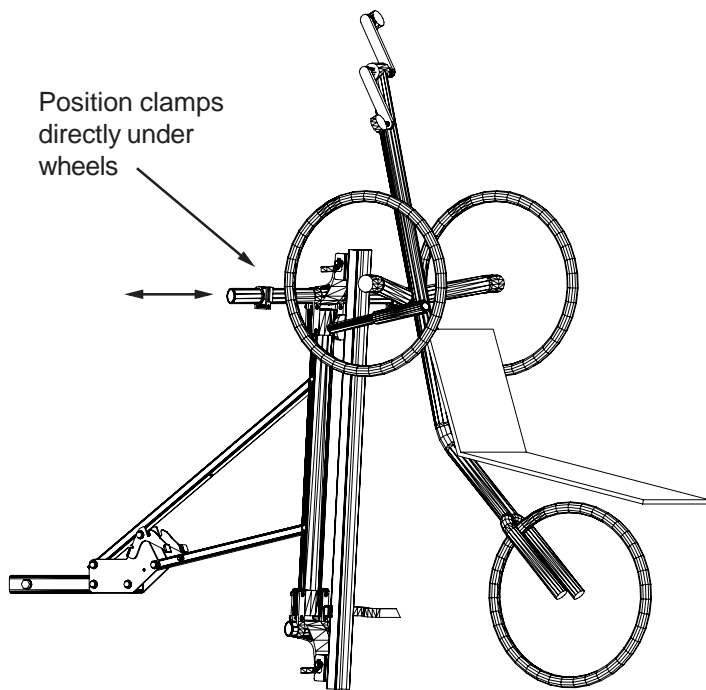

Figure 4A
4.2. Place your tadpole trike on the Draftmaster with the trike's cross member on top of the Support Arms. See Fig 4A. Slide the WTMCs (Wheel Tray Mounting Clamp) so they are directly under the front wheels. The wheels do not need to touch the clamps.